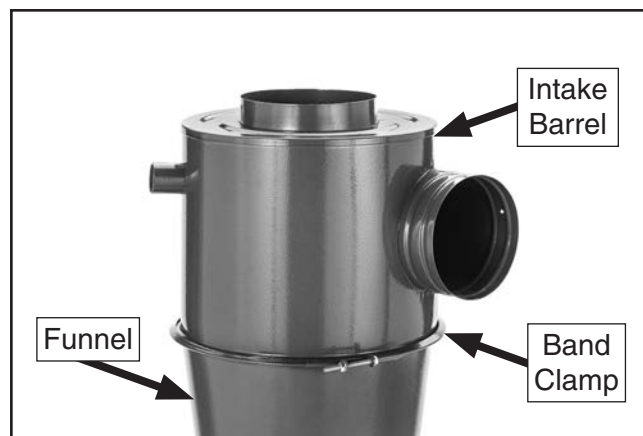

Figure 16. Intake barrel attached to funnel.
20. Loosen band clamp (see **Figure 16**) at top of cyclone funnel to reveal metal lip.
21. Place intake barrel on top of funnel (see **Figure 16**), then position clamp so band captures lip at top of funnel *and* lip at bottom of barrel. Tighten clamp to secure.